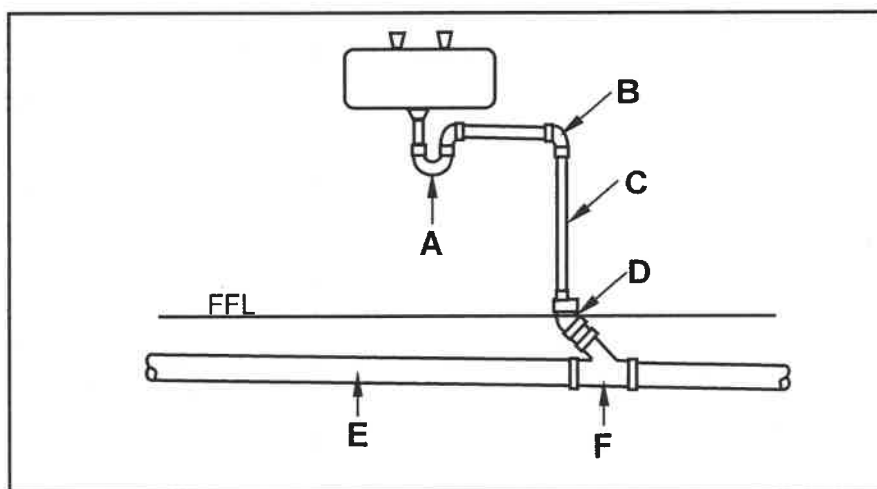

FIGURE 4.2
4.2 FIGURE 4.2 below shows the drain installation for a bathroom with a washbasin.